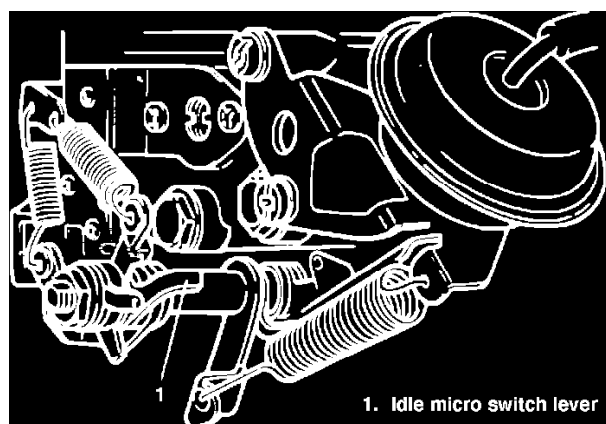

Fig. 47 Idle micro switch lever. 1987 - 88 models
5. Gradually increase engine speed from idle speed. Check that engine speed is in range of 1500 - 2400 RPM when ohmmeter indicates infinite resistance. If speed is outside of range, adjust by bending lever as shown in **Fig. 47**.